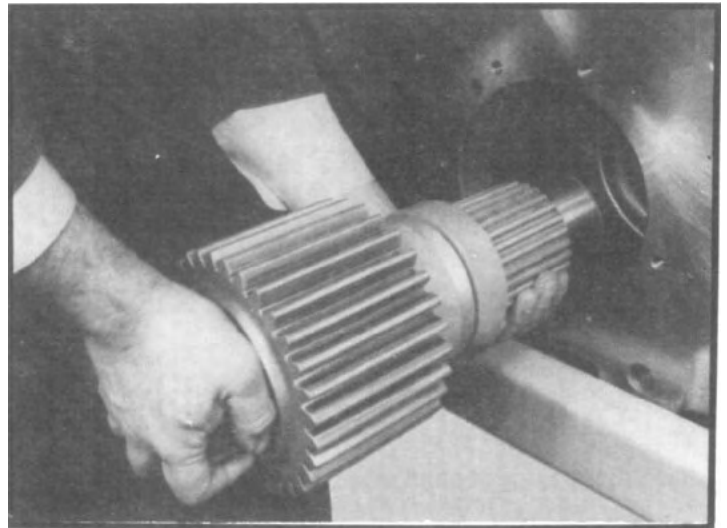

Fig. 84
- Insert intermediate shaft through front bearing bore and through direct drive gear. (See fig. 84.) Place the spacer ring over the rear of the shaft and against the gear. Tap the front of the shaft into rear bearing.